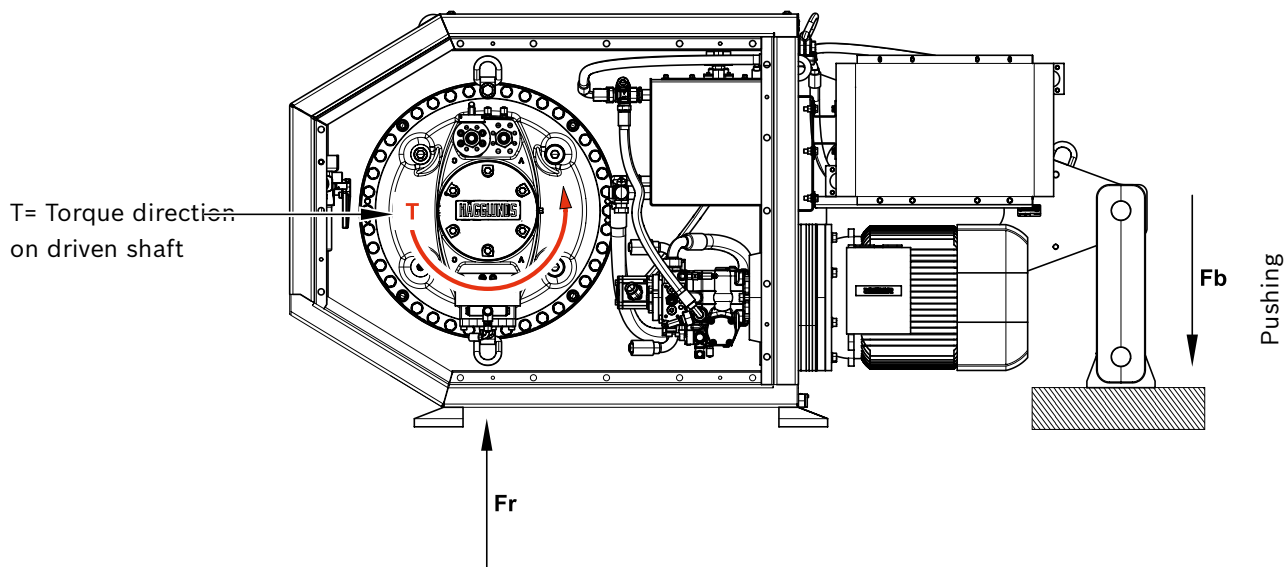
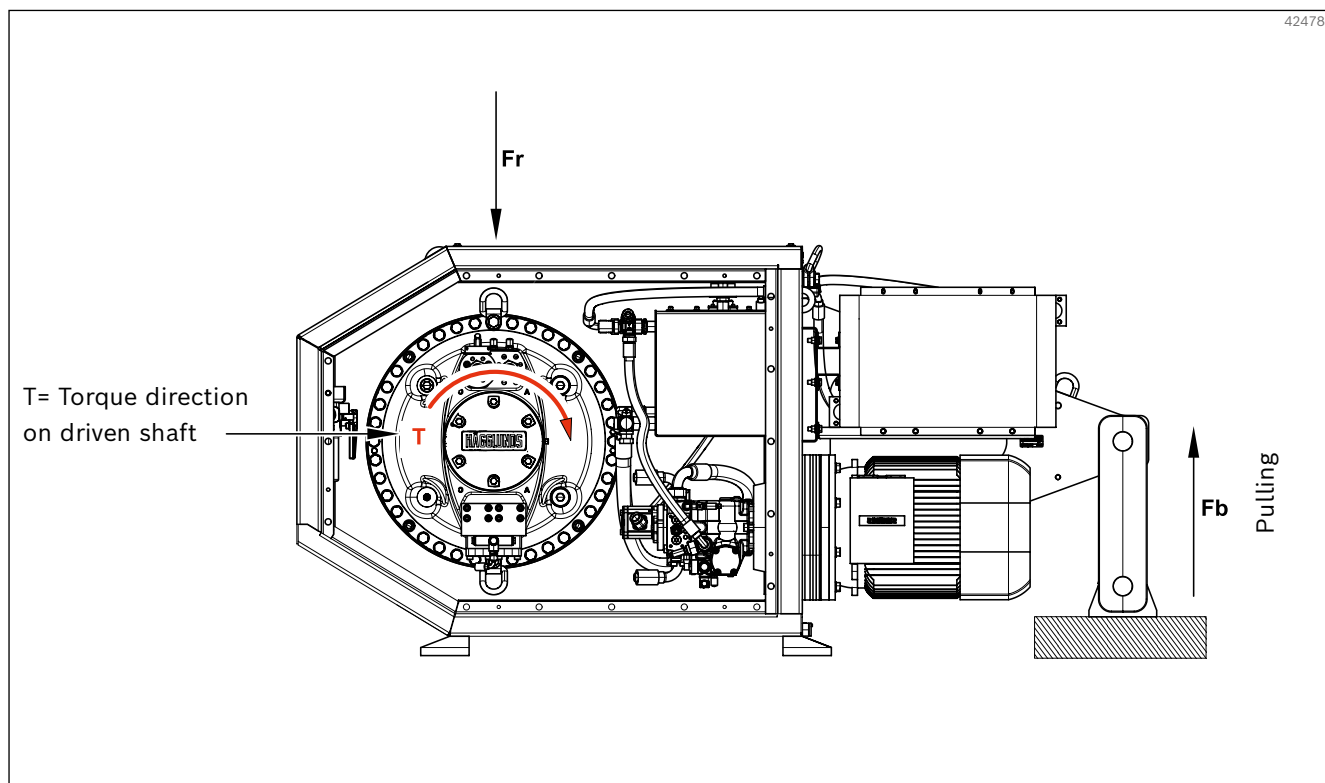

Fig. 11: External forces Fr, Fb for torque arm (3 o'clock position)
Fig. 12: External forces Fr, Fb for torque arm (3 o'clock position)
- ▶ Make sure the foundation and the customer machine can withstand the forces from the torque arm. See Fig. 11, Fig. 12, and Table 12